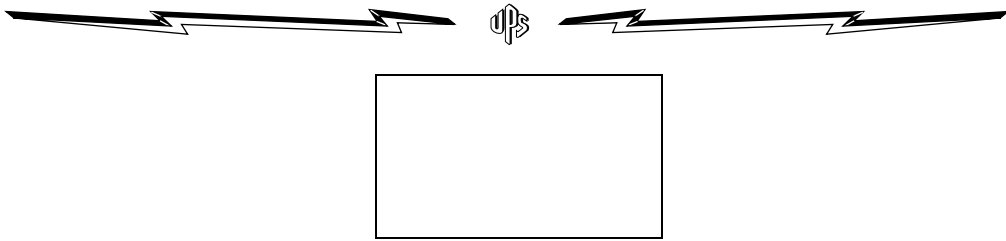

Figure 8. REPO Port
2. Connect dry, isolated, normally-open contacts across the REPO device to PIN 1 and PIN 2. (Figure 8 shows the location of the pins on the UPS REPO connector.) Use stranded non-shielded wiring, size #22 through #18.